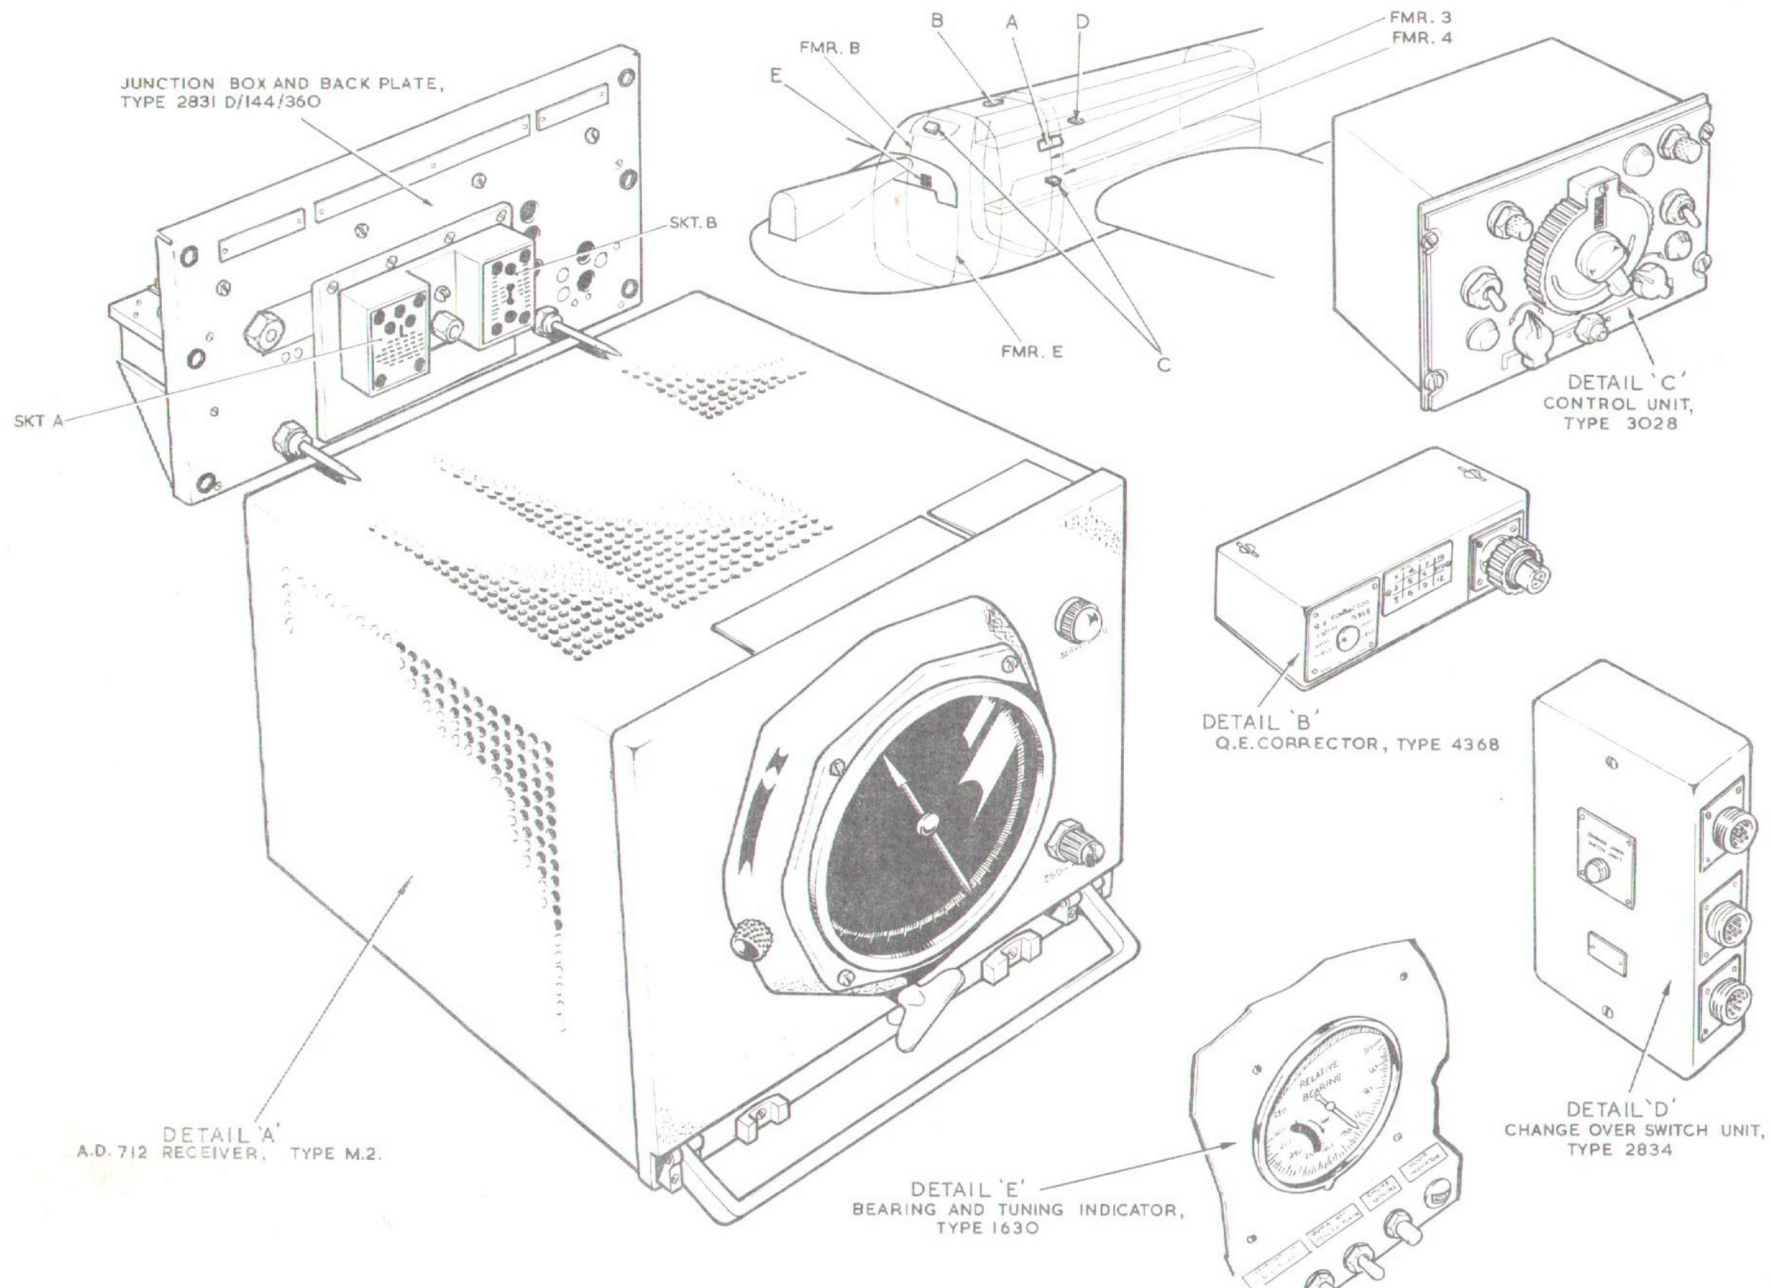

Fig.1. Location of A.R.I. 23084 equipment
3. The receiver is mounted in the console at former 3, between the tactical and routine attack navigators, as illustrated in fig.1. A 5 inch diameter goniometer indicator mounted on the front face of the receiver provides relative bearing information. The bearing scale of the indicator may be rotated by means of the "Set scale" control to allow the aircraft magnetic heading to be applied. The damping of the indicator pointer can be adjusted by means of the "SERVO GAIN" control. Also mounted on the front panel of the receiver is a 250 mA fuse to protect the H.T. circuits.